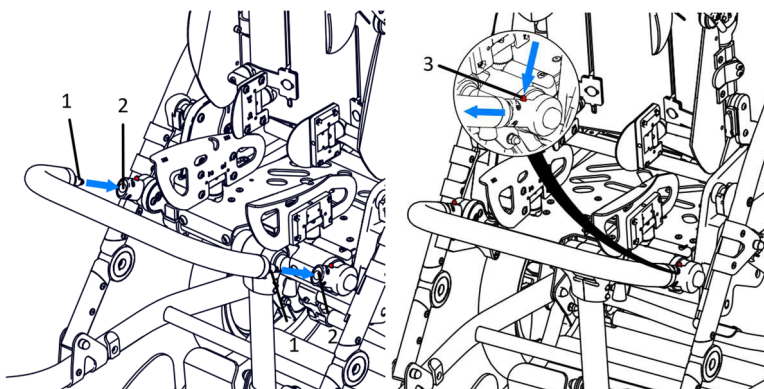

Fig. 20
The safety bar Fig. 20 installed by inserting the mounting pins (1) into the sockets (2) mounted to the seat. Correct fastening is indicated by a characteristic click of the lock.